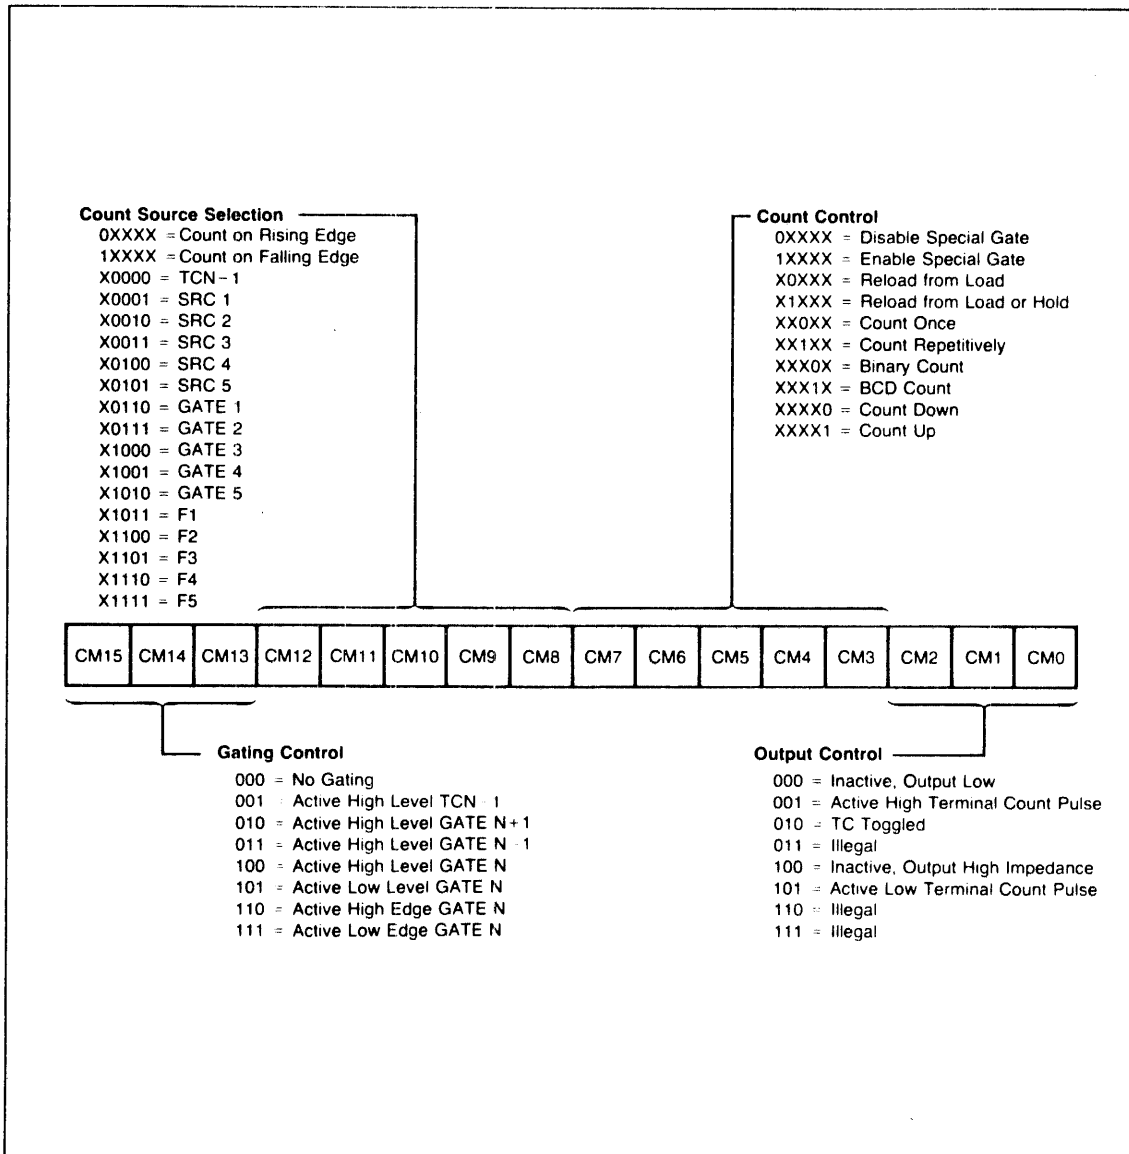

Figure 3-17. Counter Mode Register Bit Assignments
Each Counter Logic Group includes a Counter Mode (CM) register used to control all of the individual options available with its associated general counter. These options include output configuration, count control, count source and gating control. Figure 3-17 shows the bit assignments for the Counter Mode registers. The following paragraphs describe the control options in detail. Note that generally each counter is independently configured and does not depend on information outside its Counter Logic Group. The counter mode register should be loaded only when the counter is disarmed.